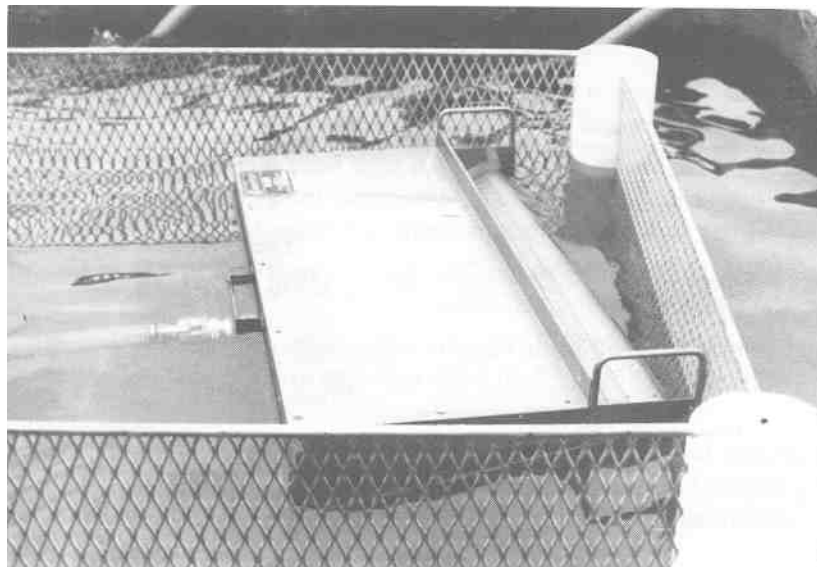

Figure 6
**Debris Fence.** (Figure 6) When the area to be skimmed has a large amount of associated debris, the Debris Fence is invaluable for reducing clogging of the SLURP intake. It is four feet square and extends 8 inches above and below the surface.